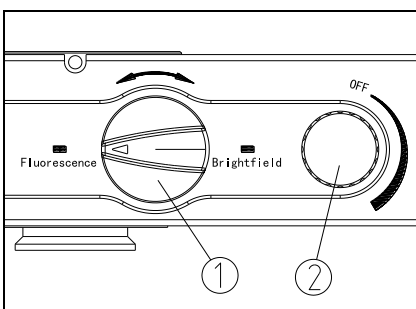

Fig 35
“Flourescence” means flourescence observation, and “Brightfield” means bright field observation. (See Fig. 35)
6. Illumination: rotate the light adjustment knob ② in clockwise, turn on the LED fluorescence lamp when a sound of “DiDa” is heard, and rotate it in clockwise to make the LED brighter. Rotate the light adjustment knob ② in counterclockwise to make the LED darker, and turn off it until a sound of “DiDa” is heard (See Fig. 35)